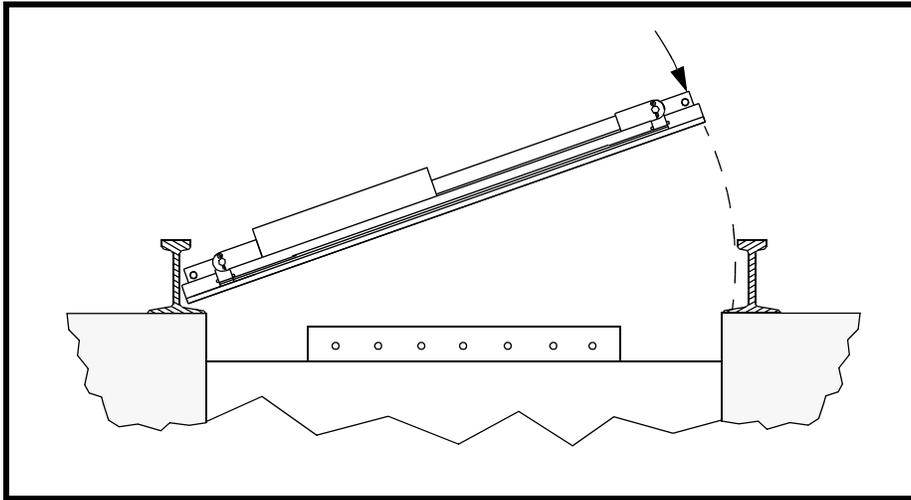

**Figure 3. Hose Connections for Models SBL-18, SBL-24, SBL-30, and SBLR-18**
2. Install two 90° street elbows into each SBL-18, SBL-24, SBL-30, and SBLR-18 lift cylinder (see Figure 3).
3. Connect hoses to lift cylinders and control console as shown in Figure 3. Route hoses *under* tracks. Make sure hoses are not pinched or kinked.
See Figures 3 and 4. Run a filtered, 1/4-in. air line (supplied by the customer) from the air supply to the regulator on the control console.